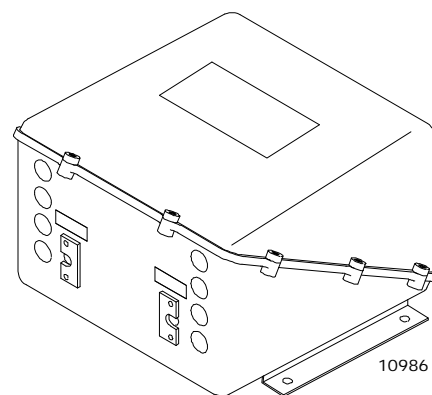

Figure 1 - Processor
- One Processor required per engine (refer to Figure 1)